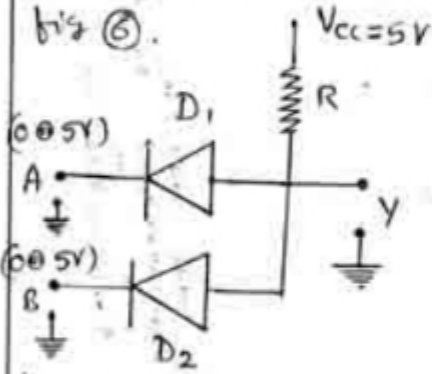

Fig 6
* The circuit diagram of an AND gate using diodes is shown in fig 6.